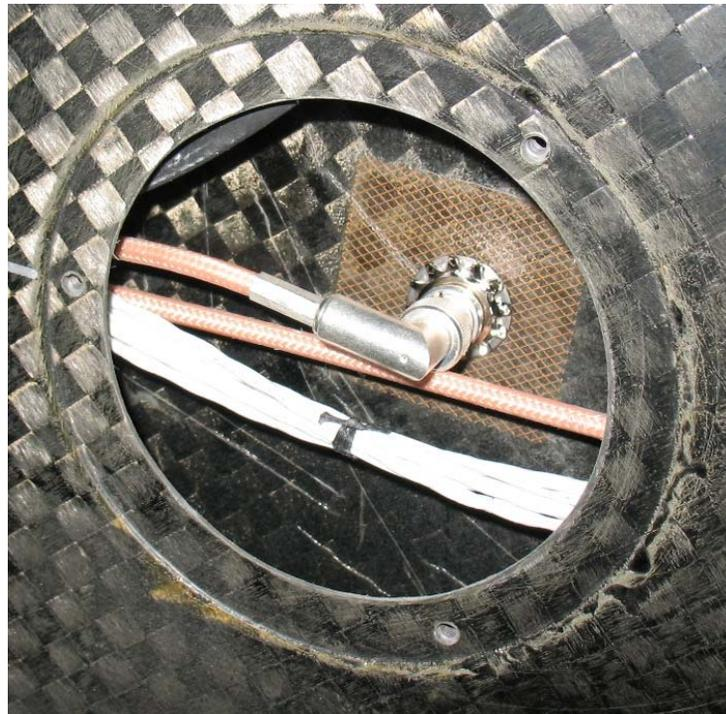

Figure 25-8 ELT Antenna Cable and Connection
4. Disconnect the cable leading to the antenna. See Figure 25-8 .
4. Disconnect the cable leading to the antenna. See Figure 25-8.